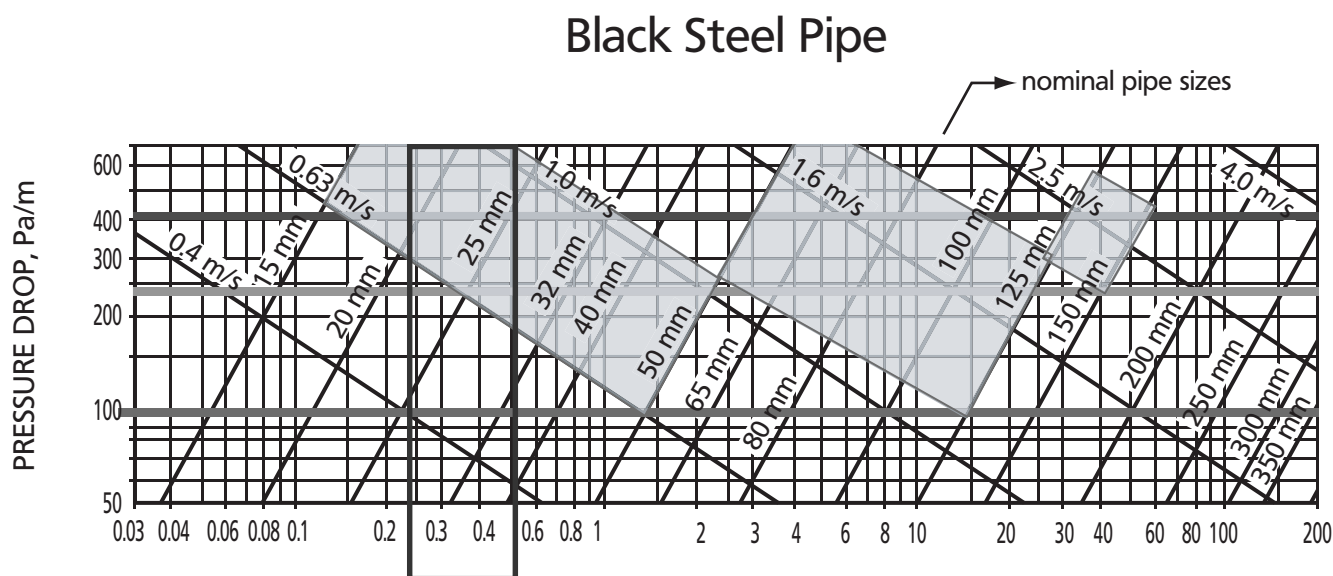

Fig. 1 VOLUMETRIC FLOW RATE, L/s
Based on the Darcy equation, the pipe friction / flow tables are made (e.g. **fig.1**).
- by means of the using the friction loss diagram (fig.1), the diameter should be determined based on following input: